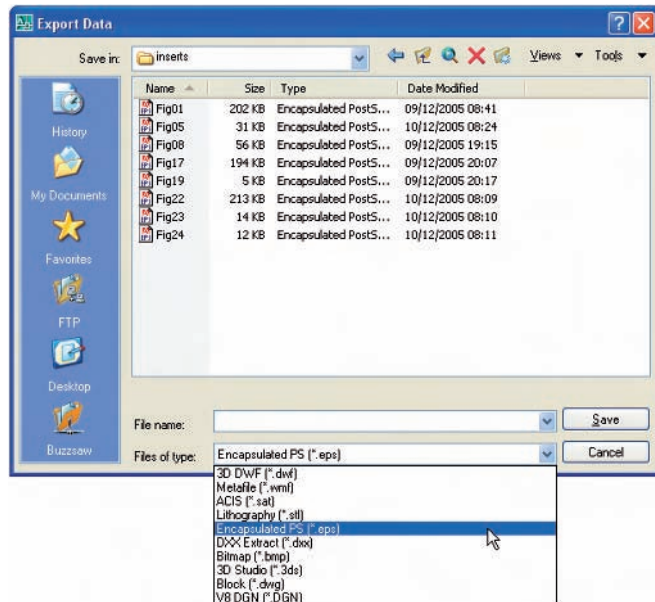

Fig. 10.4 The **Export Data** dialog of AutoCAD 2007
1. With the same drawing on screen *click* on **Export . . .** in the **File** drop-down menu. The **Export Data** dialog appears (Fig. 10.4). *Pick Encapsulated PS (*.eps)* from the **Files of type** popup list, then *enter* a suitable file name (**building.eps**) in the **File name** field and *click* the **Save** button.